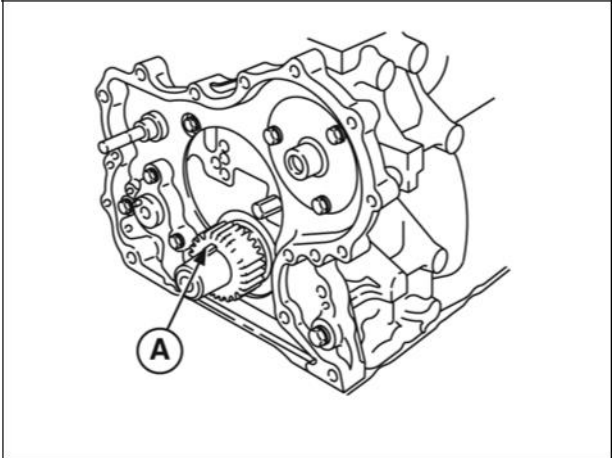

Figure 13
8. Rotate crankshaft so that the key is at the 12 o'clock position (A, Figure 13).